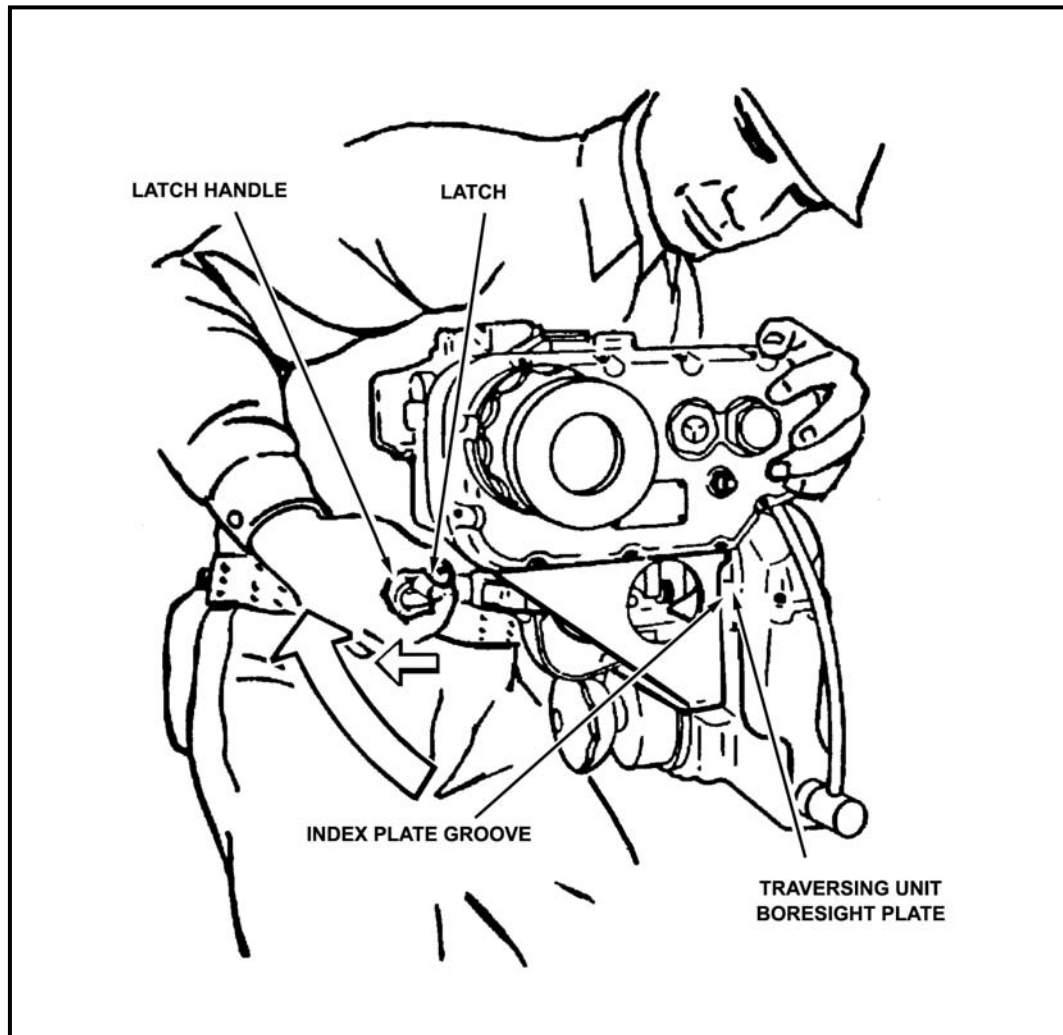
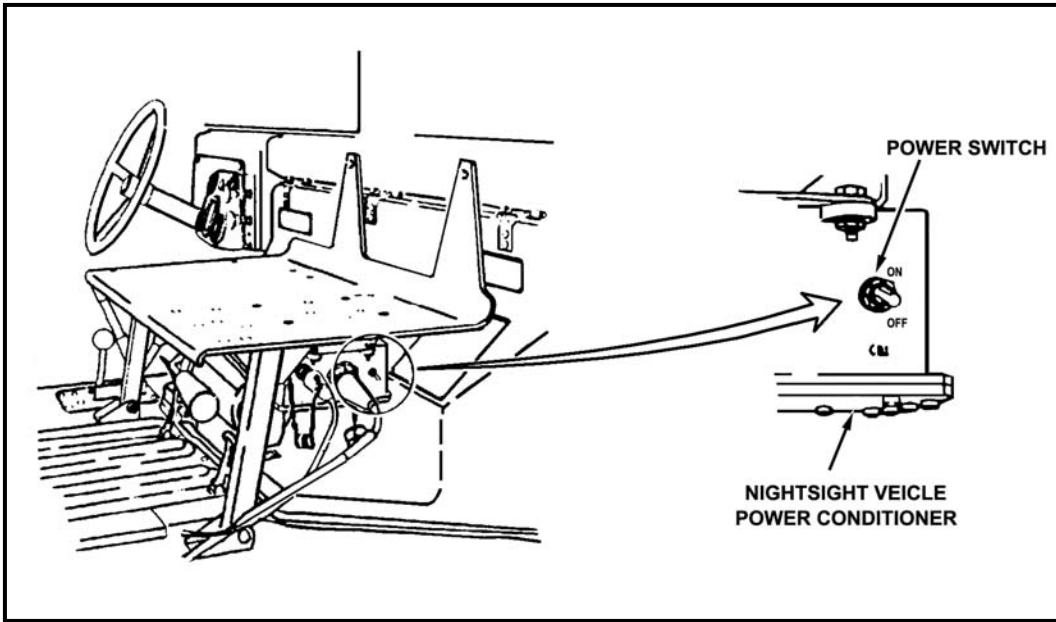

Figure 3-11. Daysight tracker on traversing unit boresight plate.
Figure 3-12. Nightsight power cable 2W2, J1 connector, and vehicle power conditioner.
- (1) The driver-loader hands the daysight tracker to the gunner.
- (2) The gunner mounts the daysight tracker on the traversing unit boresight plate. He secures the daysight tracker by locking the latch handle (Figure 3-11).
- (3) The driver-loader stows the nightsight case in its bracket.
- (4) The squad leader connects connector P2 of the TVPC power cable to the power conditioner cable.
- (5) The squad leader unwinds the nightsight power conditioner cable and TVPC cable and hands both to the gunner.
- (6) The gunner connects the nightsight power cable 2W2 to the nightsight input power conditioner J1 (Figure 3-12, page 3-12), then connects the TVPC power cable P1 to connector J1.
- (7) The squad leader turns on the TVPC.
- (8) The gunner turns on the power conditioner.
- (9) The gunner checks steps 10 through 15 of system self-test on TOW 2 (positions 1 and 7 on basic TOW), then collimates the nightsight.